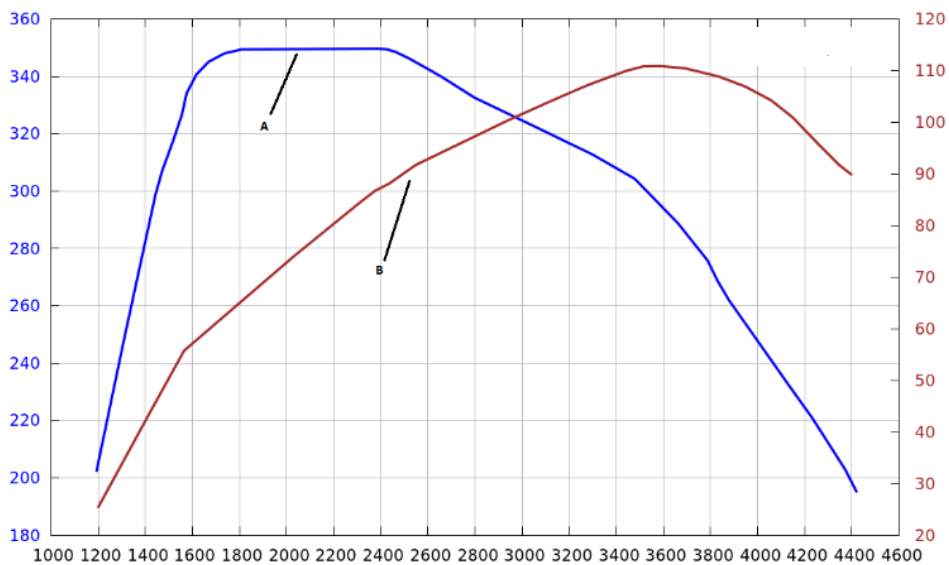

Figure 1
- a) In the graph shown in Figure 1, what does line A represent? (1 mark)
- b) In the graph shown in Figure 1, what does line B represent? (1 mark)
- c) What do the numbers on the X axis in Figure 1 represent? (1 mark)